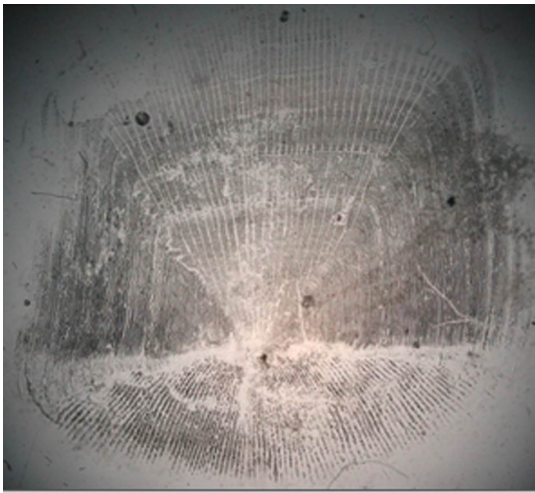

Figure 12: Striped bass scale impression lacks definition from low heat and/or insufficient pressure.
4. The scale's impression is unclear due to insufficient heat and/or pressure (Figure 12).